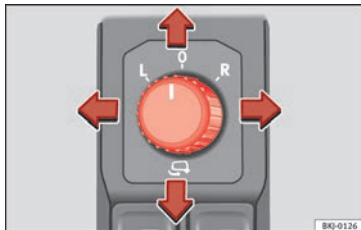

Fig. 154 Exterior mirror controls.
1. Turn knob » Fig. 154 to position **L** (left exterior mirror).
- Turn the control » Fig. 154 to position to fold in the exterior mirrors. You should always fold in the exterior mirrors if you are driving through an automatic car wash. This will help prevent damage.